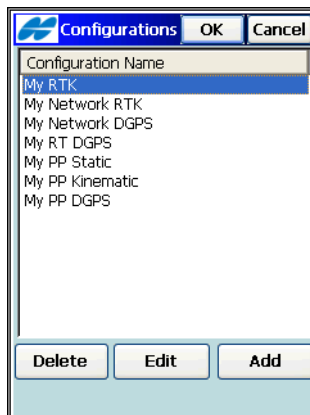

Figure 3-3. GPS+ Configurations
To configure a GPS+ survey, press the **List** [...] button in the *GPS+ Config* field of the *Survey Style* screen (Figure 3-3). On the *Configurations* screen, a new configuration is performed with the help of a Wizard.
The *Configurations* screen (Figure 3-3) contains a list of pre-defined configurations. Either edit an existing configuration or create a new configuration.
- *Name* – the name of the configuration that is displayed in the **Configurations** screen (Figure 3-3 on page 3-3).